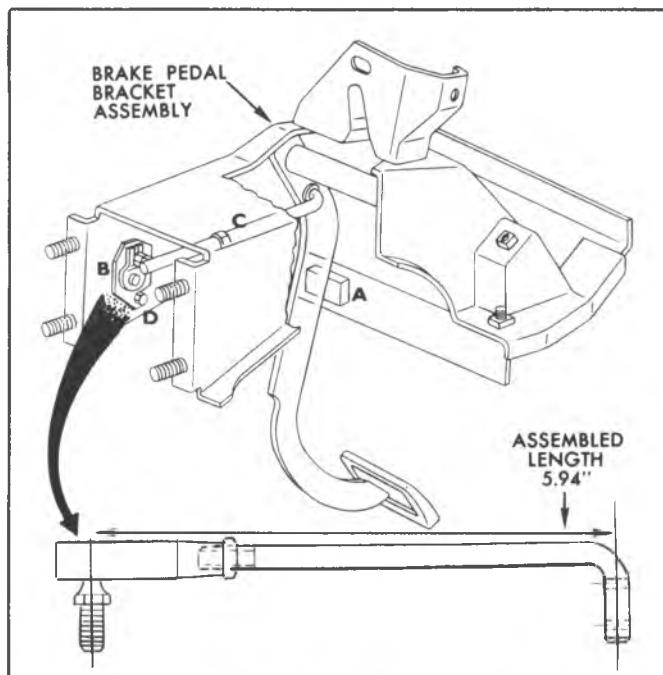

Fig. 74--Travel Switch Adjustment
## BRAKE TRAVEL WARNING SWITCH (Fig. 74)
2. Check the length of the failed switch push rod to see that it is as described in Figure 74.
4. With brake pedal hard against rubber bumper (A), rotate brake failure warning switch lever (B) forward and insert the preassembled push rod (C) in the switch and brake pedal and lock in place.